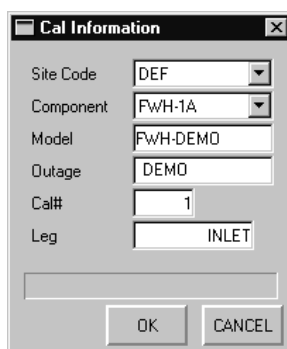

Figure 3-47. Cal Information Dialog - Filled-in
Next, **click** the drop-down box next to **Component** and select the appropriate heat exchanger for the data to be analyzed. Only the components associated with the selected **Site Code** will be displayed in the drop-down box. The **Components** displayed come from the **EddyAdmin > Sites** table discussed earlier in this section. If the desired **Component** is not present, select **Util > Tools > Run EddyAdmin ...** from the main analysis window and create or edit the appropriate entry. For the example, shown in Figure 3-47, the site *DEF* is selected which has only one (1) component (*FWH-1A*) listed in the **EddyAdmin > Sites** table. The **Model** is the name of the *.cmp* file (without the *.cmp* extension) associated with the selection in the **Component** field. The **Model** field cannot be edited, but rather is filled-in automatically based on entries in the **EddyAdmin > Sites** table.
For the CoreStar native data-type, the **Outage**, **Cal#**, and **Leg** ...fields are filled-in automatically based on the name of the data subdirectory. In the example shown in Figure 3-47, the data subdirectory is named,